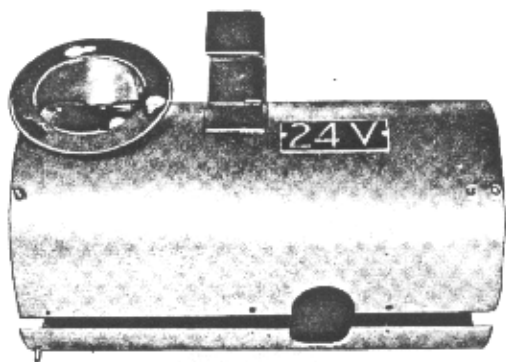

Figure 8—Heater Case
1. The one-piece heater case (Figure 8) fits around the heat exchanger. A formed edge extends the full length of the case, at the center line of the exhaust tube to simplify removal and replacement.